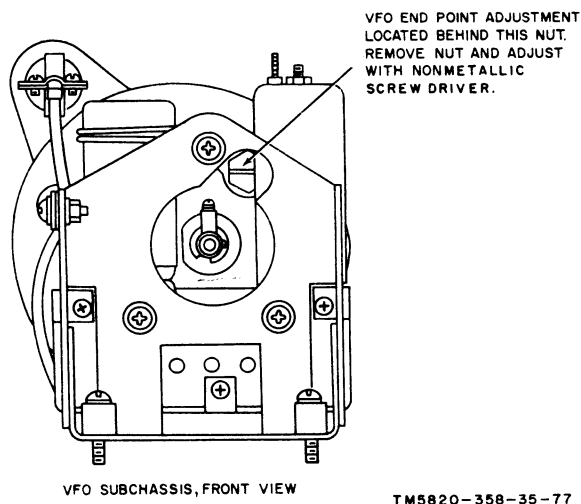

Figure 73. Variable-frequency oscillator end-point adjustment.
### 81. Variable-Frequency Oscillator End-Point Adjustment (fig. 73)
h. Use a thin screwdriver through the vfo end-point-adjustment access hole (fig. 73) to adjust L701 for zero beat.